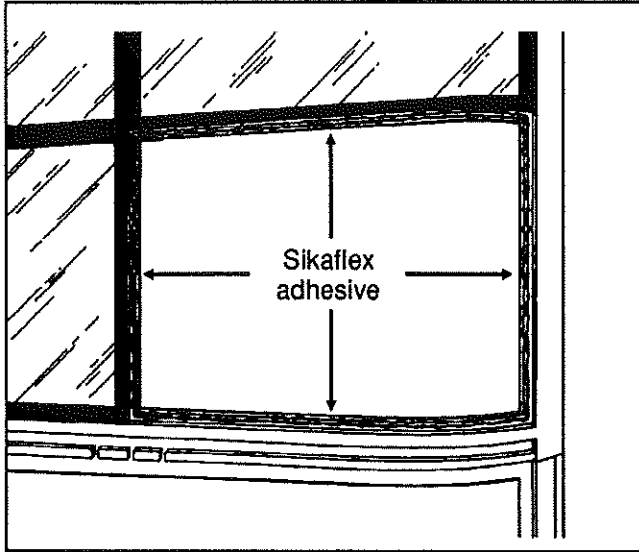

Fig. 36
6. Apply 2 beads, parallel but not touching, of Sikaflex-255 FC polyurethane adhesive (68-1092) on the sealing surface of the windshield opening. See figure 36.